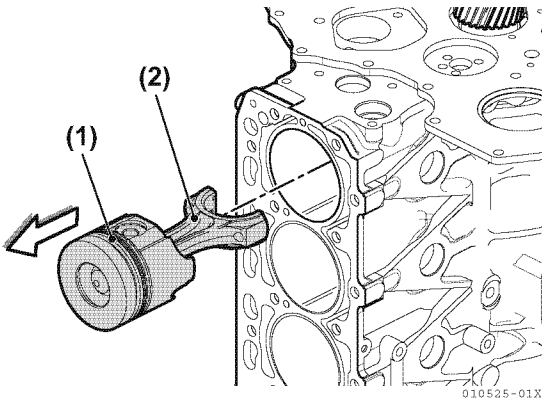

Figure 5-50
44. Remove the pistons and connecting rods (**Figure 5-50**).